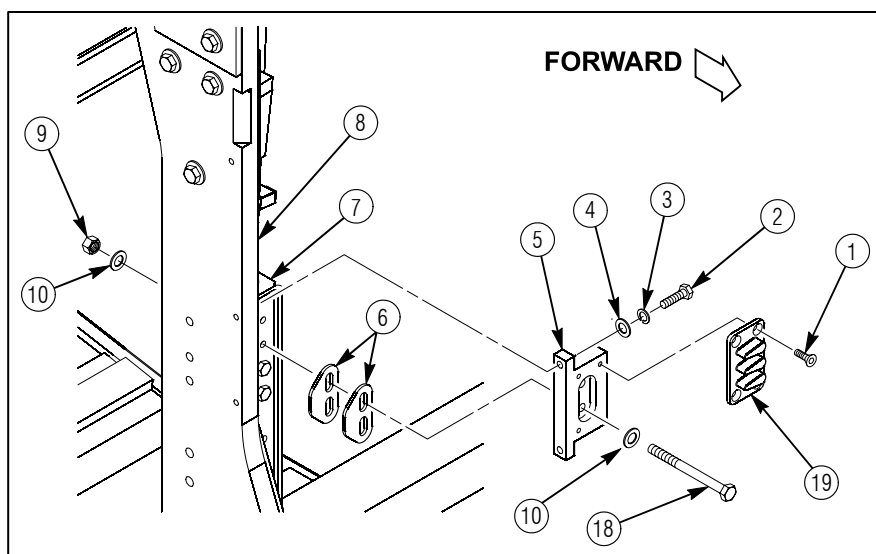

Figure 21b.
shims as required), two 4397000-052 capscrews (18), four 4397005-013 washers (10), and two 4397064-003 locknuts (9) as shown in figure 21b. Do not tighten locknuts (9) at this time.
29. Secure front door guide mount (5) to right B-pillar plate (8) with two 4397000-039 capscrews (2), 4397004-007 lockwashers (3), and 4397005-012 washers (4) as shown in figure 21b. Tighten capscrews (2) and locknuts (9) to 21 lb-ft (28.5 N·m).
30. Apply 8030-01-025-1692 sealing compound to threads of four 4397031-089 flat socket head screws (1). Refer to figure 21b.
31. Install 6437133-01M1 male door guide (19) on front door guide mount (5) with four 4397031-089 flat socket head screws (1) as shown in figure 21b. Tighten screws (1) to 10 lb-ft (13.6 N·m).